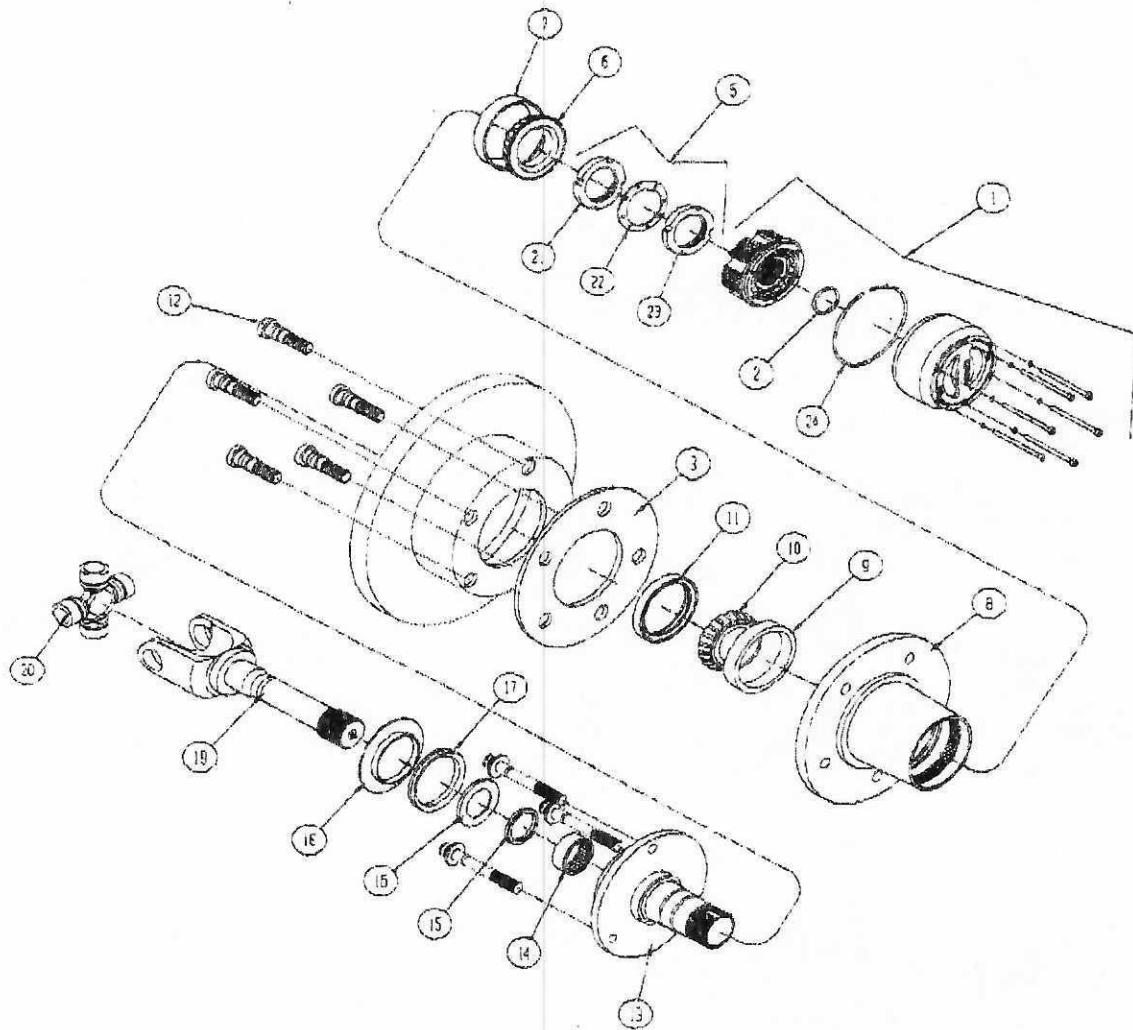

Figure 3. Front axle wheel hub conversion kit. Parts not included in kit are drawn with dashed lines
This sheet provides guidelines to install the WARN Front Wheel Hub Conversion Kit (Figure 3). There are NOTES, CAUTIONS, and WARNINGS which should be followed during installation to avoid possibility of personal injury or damage to the vehicle. During installation, standard safety precautions and equipment should be used where appropriate. Because the skill and experience of the installer and the tools used can vary widely, it is impossible to anticipate all conditions under which this installation is made or to provide cautions for all possible hazards. If your installation varies from the instruction, you must be completely satisfied that your safety or the operation of the vehicle will not be compromised.
PARTS LIST (included in kit) (Refer to Figure 3 for Item #)
13. Place thrust washer I.D. chamfer side towards Yoke. See Figure 3, Flag 16.
14. Place V-seal (thick side towards yoke) on axle shaft. See Figure 3, Flag 17.
NOTE: Be sure that factory installed spindle seal is placed cup side, facing away from needle bearing. This seal is held in by grease only. See Figure 3, Flag 15.
1. Inspect inside of wheel hub and clean if necessary. (See Figure 3, Flag 8.)
3. Thread inner nut (See Figure 3, Flag 21) on to spindle.
7. See Figure 3, Flag 22.
8. Thread outer nut on spindle. See Figure 3, Flag 23.
1. Separate body and cap assembly. (Figure 3, Flag 1)
2. Push hublock body into wheel hub (Figure 3, Flag 8) so lock ring groove in wheel hub is visible.
3. Install large lock ring (Figure 3, Flag 24) into wheel hub groove.
4. Using snap ring pliers, install axle retaining ring. (Figure 3, Flag 2)
NOTE: Dial hub lock cap (Figure 3, Flag 1) to FREE position
8. Align holes on cap using one socket head cap screw (Figure 3, Flag 1) as pilot.